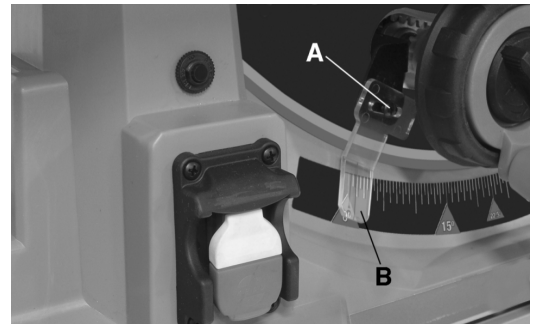

Fig. 20
2. Push in and then turn the exterior handwheel (B, Fig 20) to adjust the blade bevel angle, turning it counterclockwise increases the bevel angle of the blade.
If the blade is at a 90° angle and the bevel indicator (A, Fig 20) does not indicate 0° on the scale, an adjustment can be made:
3. Loosen the screw (A) Fig.20 which secures the bevel indicator (B). Readjust the position of the bevel indicator so it aligns with the 0° on the bevel scale. Retighten screw (A).